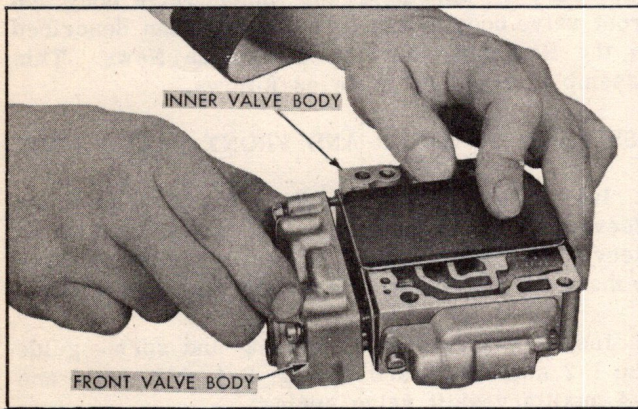

Fig. 15 Assembly of Inner and Front Body
10. Lay the inner valve body assembly on a clean, flat surface and slide the front valve body into position against the inner valve body (Fig. 15).